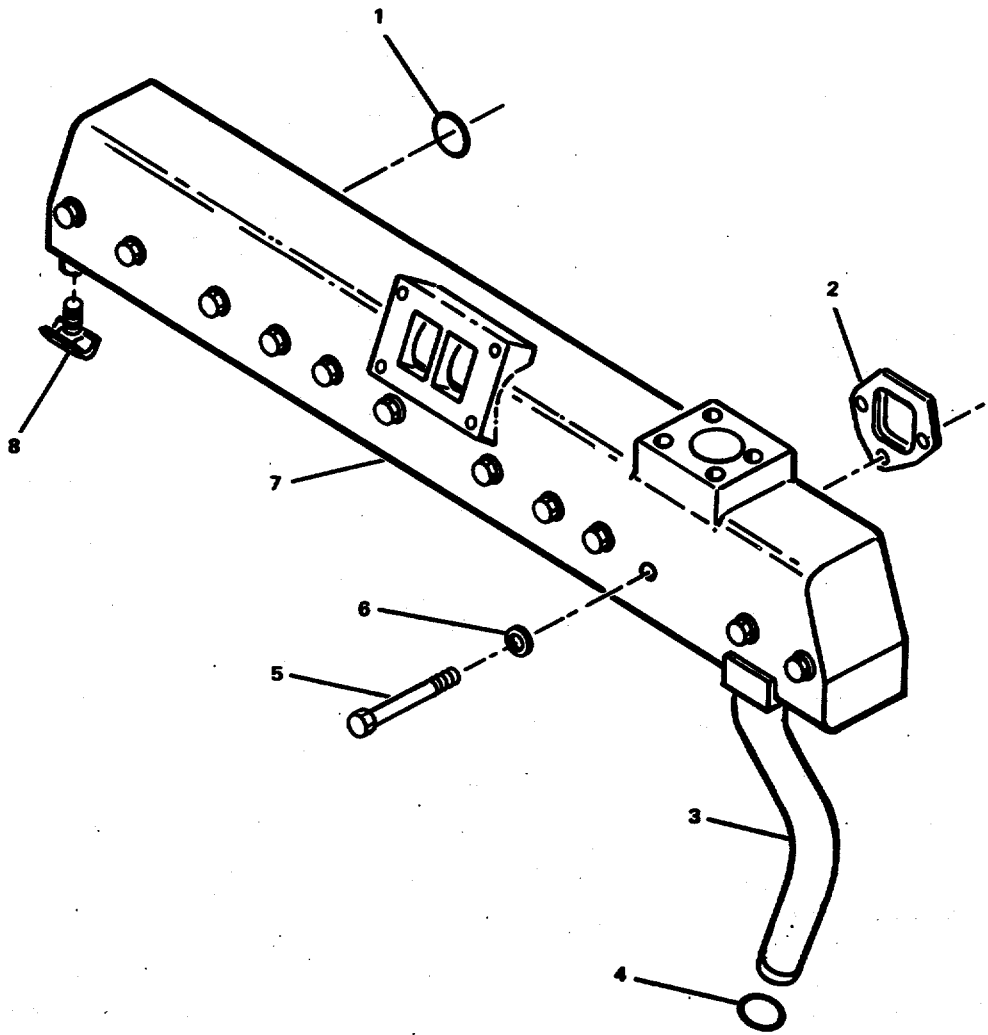
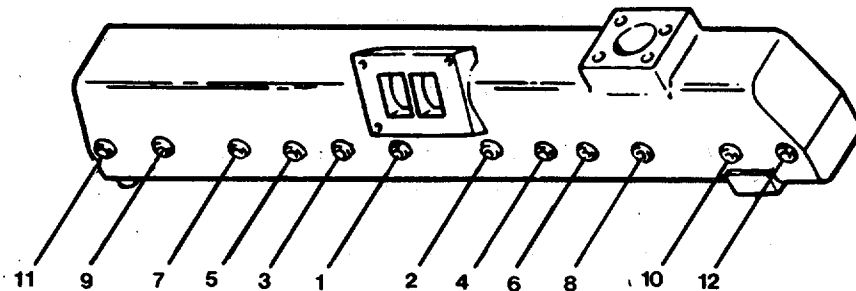

FIGURE 2-51. Exhaust Manifold.
FIGURE 2-52. Exhaust Manifold Torque Sequence.
- d. Lift air intake manifold (5) assembly in position to mount to cylinder head.
- e. Secure air intake manifold (5) to cylinder head with socket head capscrews (8), lockwashers (9), and flat washers (10). Torque to 20-25 ft lb.
- g. Secure nonmetallic hose (15) to air crossover connection (2) with hose clamps (1). Torque hose clamps (1) to 40 in-lb.
**2-40. Replace/Repair Exhaust Manifold Group. (FIGURE 2-51)**
- a. Install drain cock (8).
- b. Position preformed packing (1) and gaskets (2) on manifold (7).
- c. Install exhaust manifold (7) and secure with twelve capscrews (5) and lockwashers (6).
- d. Tighten the capscrews in two stages in the sequence shown (FIGURE 2-52) to the following torque values:
- (1) Tighten to 35 ft-lb.
- (2) Tighten to 60 ft-lb.
- g. Replace preformed packing (4, FIGURE 2-51) and connect water transfer connection (3) to engine.